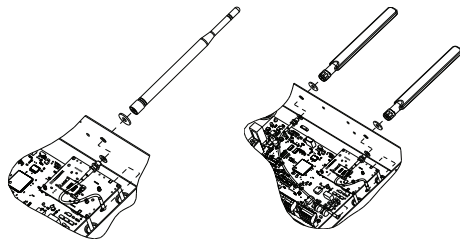

Figure 4: One antenna installation Figure 5: Two antenna installation
- To attach the antenna place a nylon washer on either side of the hole on the panel and screw the cable into the antenna. See Figures 4 and 5.